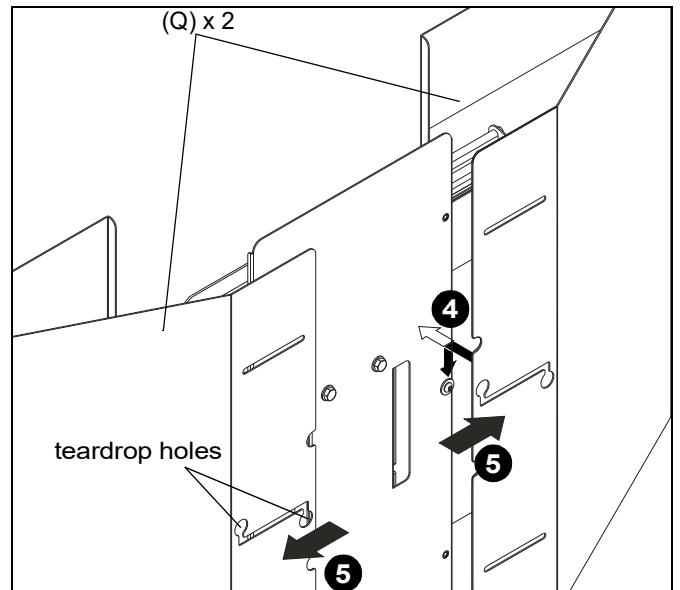

Figure 7
4. Hang two side wind shields (J) onto screws loosely installed in Step 3 using teardrop holes in center slots. (See Figure 7)
5. Slide wind shields (J) horizontally to desired mounting position. (See Figure 7)